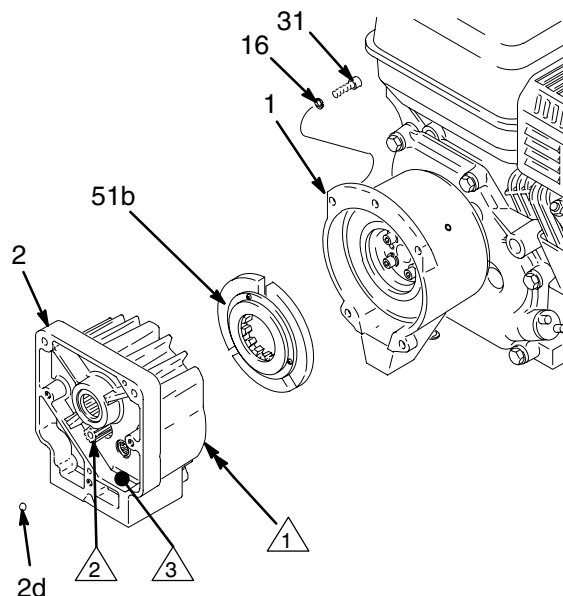
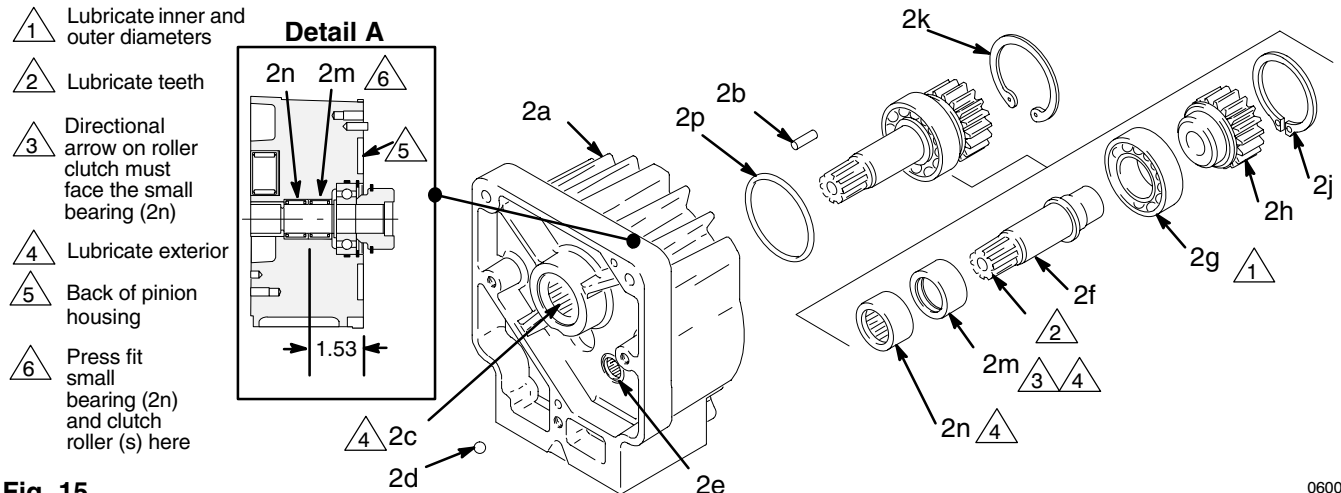

Fig. 14
Fig. 15
**NOTE:** Refer to Fig. 14 for Steps 1 to 5.
3. Remove the two bottom screws (31) and lockwashers (16) first, then remove the top three screws (31) and lockwashers (16).
4. Pull the pinion housing (2) away from the clutch housing (1). The armature (51b) will come with it.
5. Pull the armature (51b) off the hub (2h\*\*) of the pinion housing. Also see Fig. 15.
6. If replacing the complete pinion housing assembly (2), brush G-n lubricant (supplied) on the pinion shaft teeth. Then recoat the pinion shaft teeth with bearing grease (supplied). Pack the remaining bearing grease in the bottom part of the pinion housing. Use 0.08 pint of the bearing grease.
## Repairing the Pinion (Fig. 15)
5. Apply lubricant to the parts as shown in Fig. 15.
- Small bearing (2n) and then the roller clutch (2m), with the directional arrow facing the small bearing, into the rear of the housing (2a). See Detail A in Fig. 15.
Examine the splined hub (2h\*\*, Fig. 15, page 27) for wear. Replace as needed. Follow the Pinion Housing instructions, page 27.